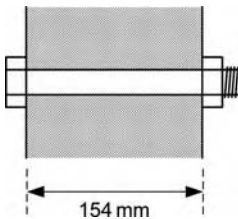

Figure 4.42 Bolt.
6. The bolt shown in Figure 4.42 has a thread of 1 mm pitch. If the nut is originally tight, and neglecting any compression in the material through which the bolt passes, find the increase in stress in the bolt when the nut is tightened by rotating it through one eighth of a turn. Take the elastic modulus E as 200 GN/m^2 .